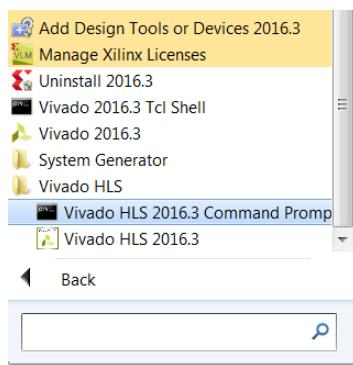

Figure 7-1: Vivado HLS Command Prompt
- On Windows use **Start > All Programs > Xilinx Design Tools > Vivado 2017.1 > Vivado HLS > Vivado HLS 2017.1 Command Prompt** (Figure 7-1).